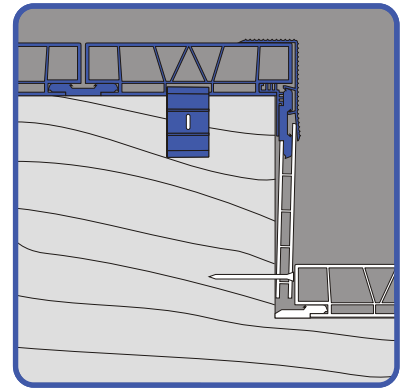

Figure 11
**Step 1.** Use stringers when building steps. Stringers should have a rise of 6 to 7", with a tread depth of 12". Use end clamps, anchor biscuits, and finishing trim to finish the outer edge of the stair tread (as you would for finishing exposed deck edges). Rip fascia to be 1½" smaller than the rise (e.g. fascia for stringers with a 6" rise should be ripped to 4½" in width). Slide the fascia under the finishing trim and around the anchor biscuits with the ripped side facing down. Secure the bottom of the fascia with a deck screw driven through the fascia into the stringer (see Figure 11).